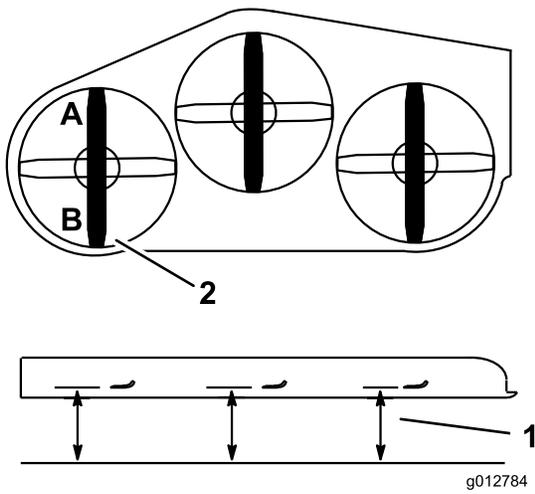

Figure 83
2. Measure the left blade at the **A** location, from a level surface to the cutting edge of the blade tip and record this measurement (Figure 83).
3. Measure the left blade at the **B** location, from a level surface to the cutting edge of the blade tip and record this measurement (Figure 83).
4. The mower blade should be a 1/4 to 3/8 inch (6 to 10 mm) lower at position **A** than at position **B** (Figure 83). If it is not correct, proceed to the following steps.